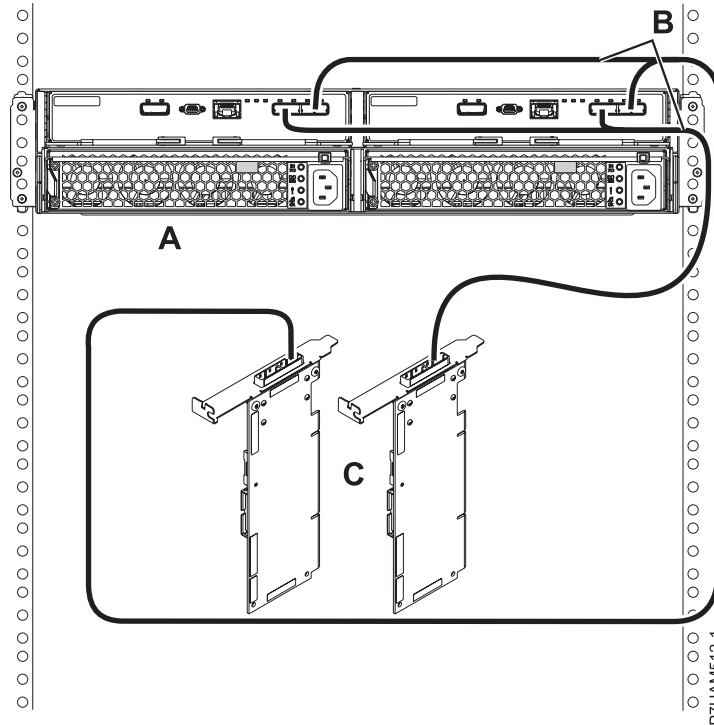

Figure 37. Mode 1 connection of one 58/87 disk drive enclosure by using YO cables to a SAS adapter pair
11. Perform the mode 1 connection of one 58/87 disk drive enclosure (A) by using YO cables (B) to a SAS adapter pair (C) as shown in Figure 37 on page 69.
- Each adapter in the SAS adapter pair (C) has access to the other adapter and to all 24 drive bays.